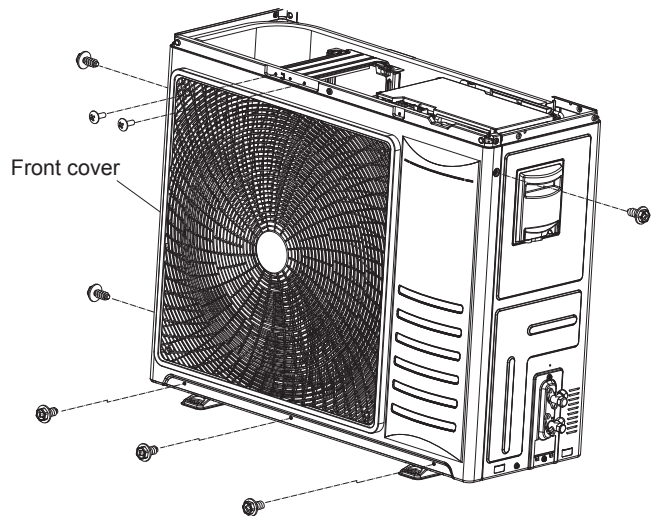

Fig.2.3
3. To remove the front cover, remove 6 fixing screws at the front, 2 left nails and 1 right nail, as is shown in Fig.2.3.